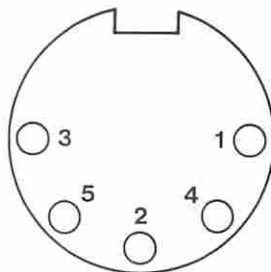

Figure 3. Voltage Check - System Board Keyboard Connector
- Check the voltage on the system board keyboard connector as shown in Figure 3.